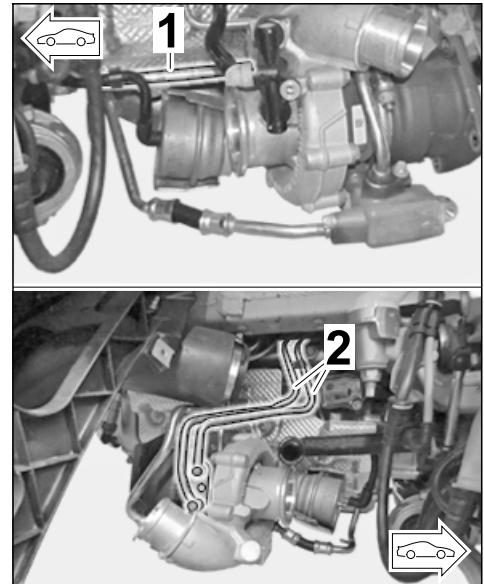

Figure 8
- 1.8.3 Remove flange with turbocharger coolant lines (cyl. 1–3/cyl. 4–6) (⇒ *Figure 8*) and collect coolant.
- 2 **ONLY** for vehicles **WITHOUT** Porsche Ceramic Composite Brake (PCCB = 450) and/or rear axle steering (470):